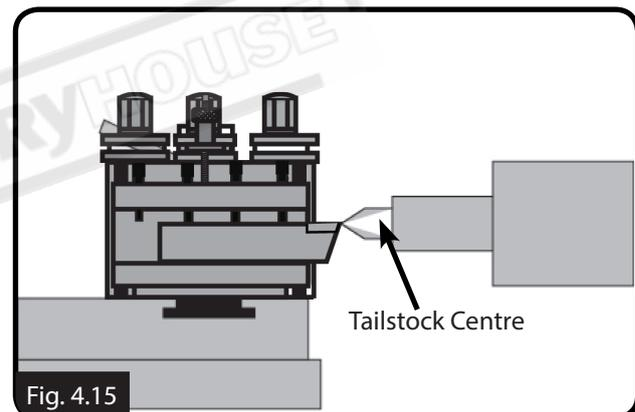

Fig. 4.15
4. Adjust the height of the cutting tool tip to meet the center tip, as shown. (Fig.4.15)